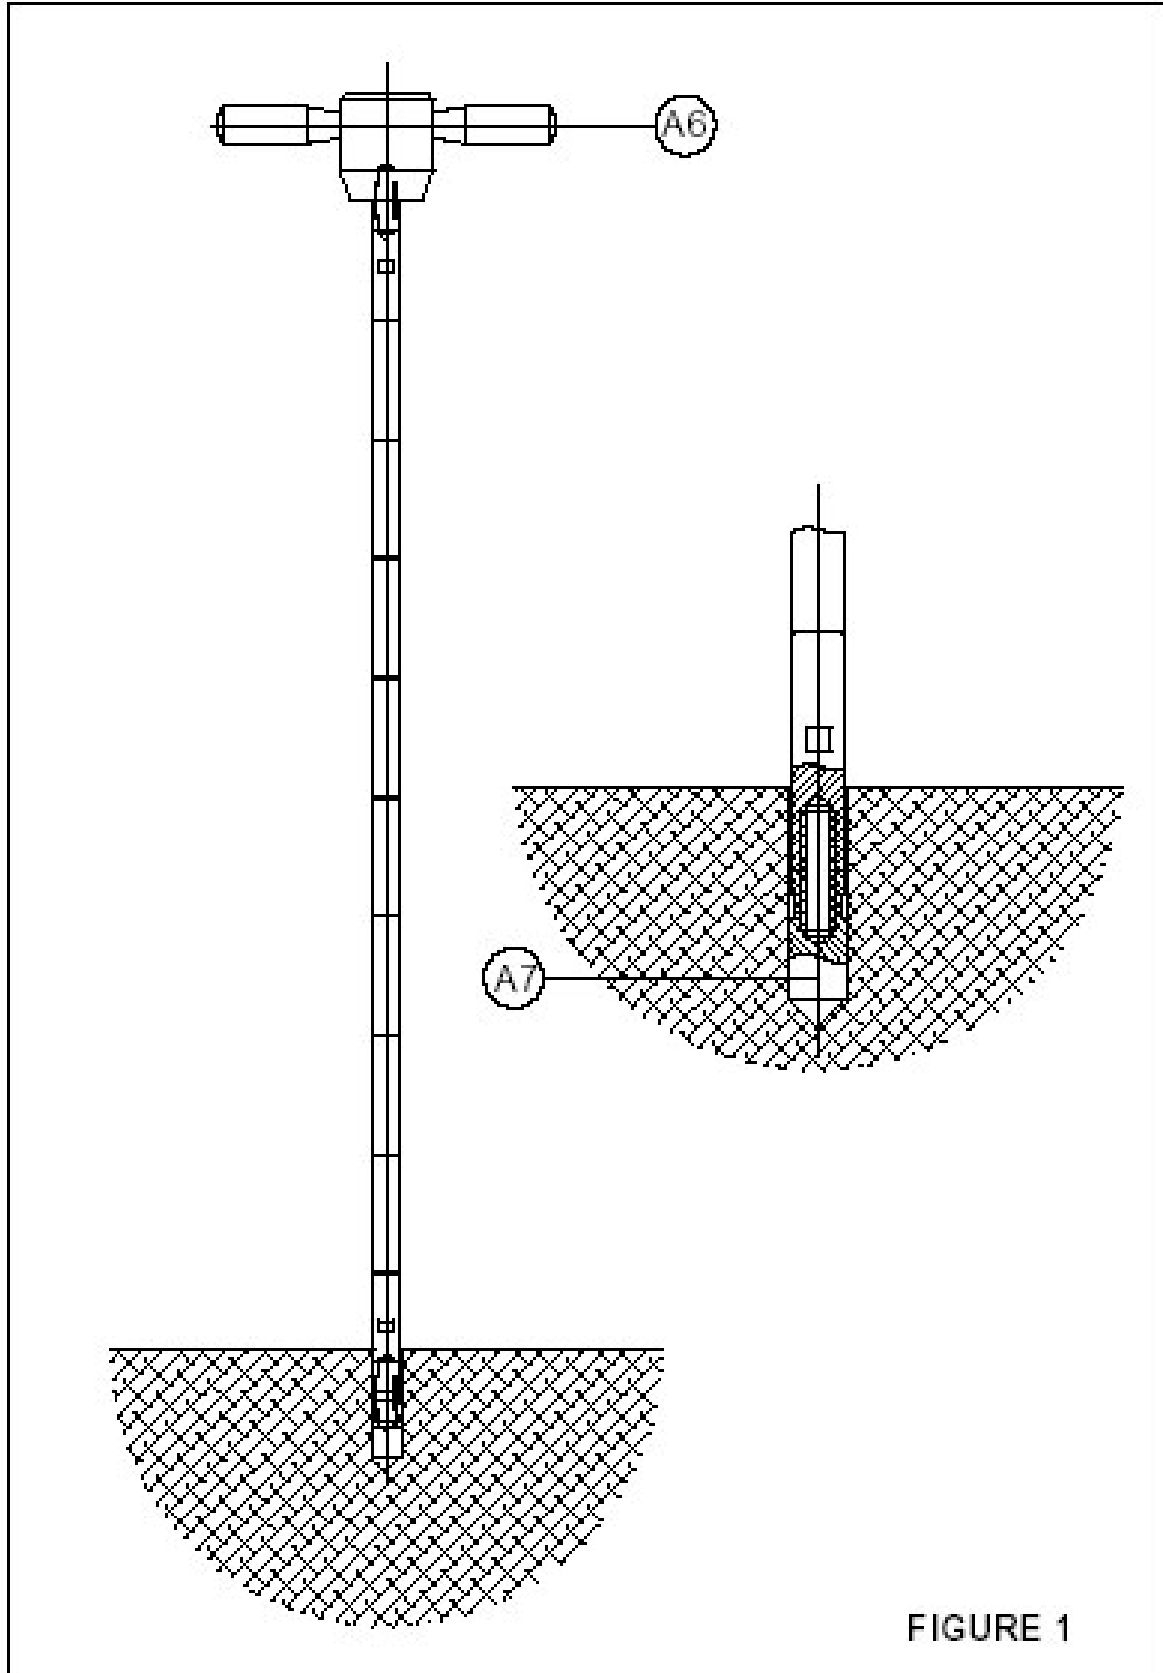

FIGURE 1
2. Using a threaded pipe(M16) join the drive point and the Standard rod ( A4) screwing strongly ( FIG.1 )